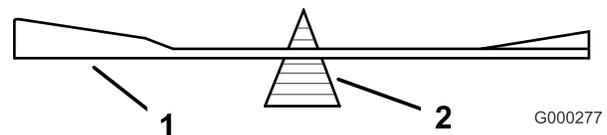

Figure 57
2. Check the balance of the blade by putting it on a blade balancer (Figure 57). If the blade stays in a horizontal position, the blade is balanced and can be used. If the blade is not balanced, file some metal off the end of the sail area only (Figure 57). Repeat this procedure until the blade is balanced.